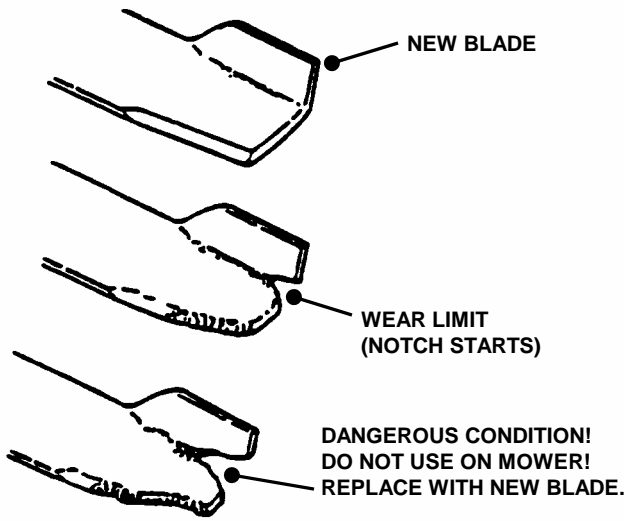

FIGURE 4.5
1. Inspect blade frequently for signs of excessive wear or damage. See Figure 4.5.
<p>DO NOT use a cutting blade that shows signs of excessive wear or damage. Refer to Figure 4.5. Wear heavy leather gloves when handling or working around cutting blades. Blades are extremely sharp and can cause severe injury.</p>
2. Inspect condition of blade. See Figure 4.5.
5. Reinstall blade. See Figure 4.5. Torque blade mounting bolts to recommended range of 70 to 80 ft. lbs.